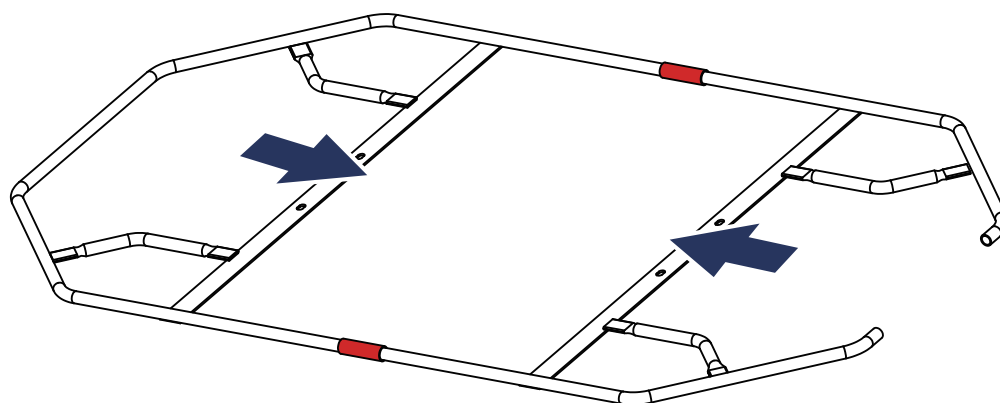

Figure 1
2. Insert the Right Guard Cover into the Left Guard Cover, as shown in the figure. (See Figure 1)
3. Place the two shaft halves parallel to each other, as shown in Figure 1.
4. Mark the points where the two shaft halves need to be shortened. Measure 0.98 in. (25 mm) from the starting point of each half, as shown in Figure 1.
5. Cut the guard cover (A), then use the cut section (B) as a reference to cut the splined shaft (C).